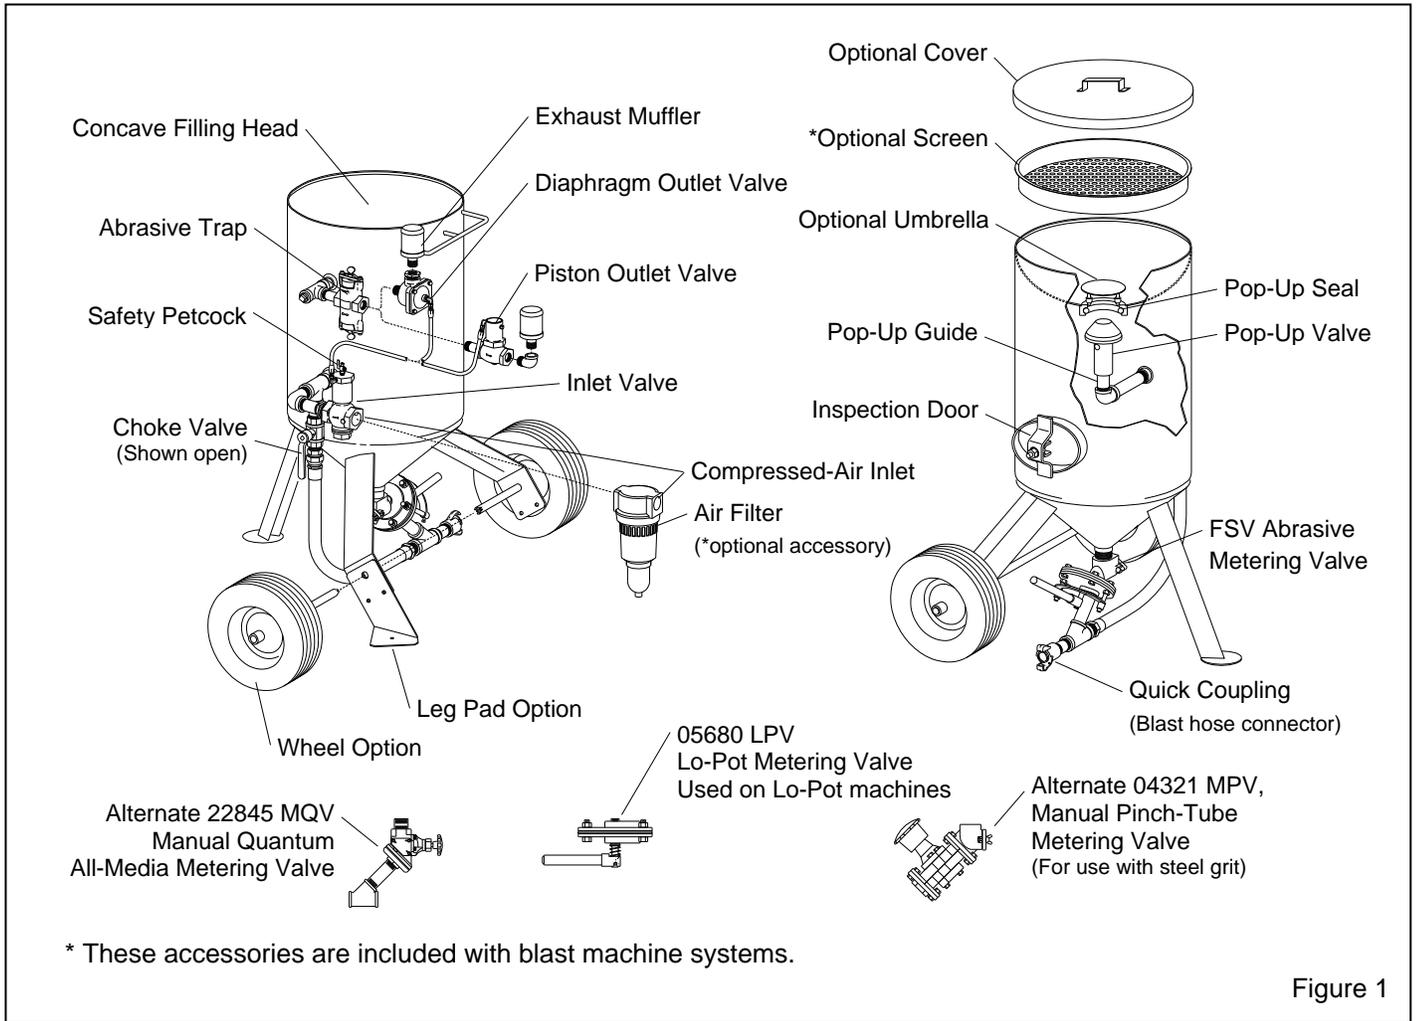
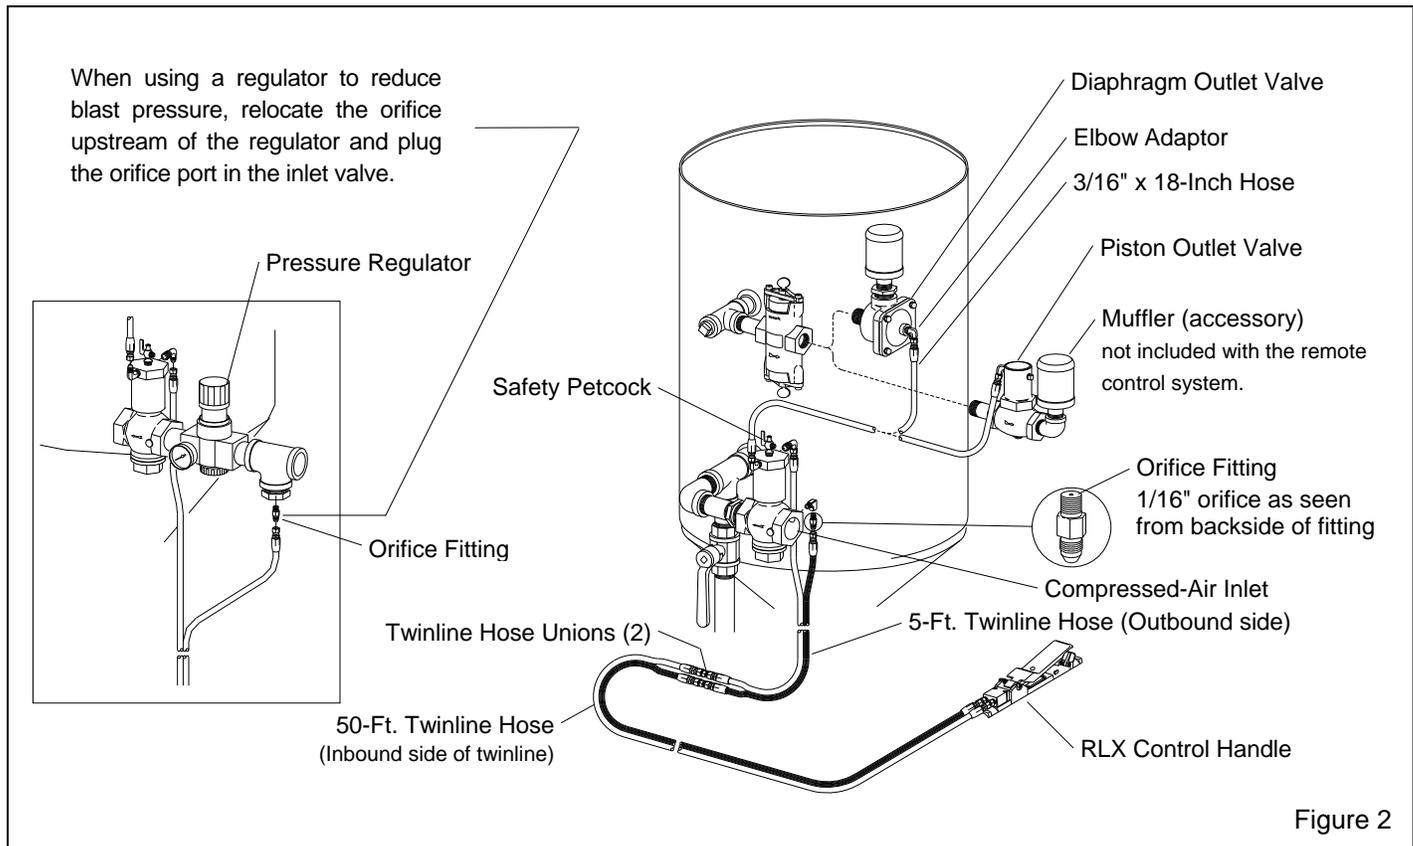

Figure 1
Figure 2
**1.4.1.1** The primary components of the blast machine and the remote control system are shown in Figure 1. Additional components of the remote controls are shown in Figure 2. Additional parts used with optional ACS system are shown in Figure 9.
**1.4.3.3** Components of the TLR remote control system are shown in Figures 1 and 2. They include the inlet valve piston or diaphragm outlet valve (the piston valve is used in most applications, the diaphragm valve is recommended for use with fine mesh or aggressive abrasive), RLX control handle, 50-ft. and 5-ft. long twinline control hoses, 2 control hose unions, and an 18-inch-long interconnecting hose.
**1.4.3.5** Clemco remote controls operate pneumatically on a return-air principle. A stream of control air travels from the orifice on the inlet valve, down the outbound twinline (shown shaded1 in Figure 2) and escapes through the opening located under the control handle lever. The normally closed inlet valve remains closed, and the normally open outlet valve remains open. As long as air escapes through the handle's opening, the remote control system remains inactive. When the
Clemco supplies an exhaust muffler with all blast machines of 2 cuft capacity and larger. The muffler reduces exhaust noise and prevents abrasive from exhausting upward or sideways into the air. When the blast machine is depressurized, the muffler body pops up to diffuse the air and abrasive. When the machine is fully depressurized, the muffler body drops, permitting trapped abrasive to empty. For the muffler to work properly, it must be installed with the body facing up, as shown in Figure 1.
**2.2.1** When installing a pressure regulator to reduce blast pressure below 60 psi (80 psi when using an ACS), install a tee upstream of the regulator as shown in the insert in Figure 2, relocate the orifice to the tee, and plug the orifice port in the inlet valve. This allows the pneumatic control circuit to operate at line pressure.
**2.6.6** Attach the 5-foot twinline control hose to the inlet valve as shown in Figure 2; one side of the hose connects to the unused upper elbow, the other side to the orifice fitting.